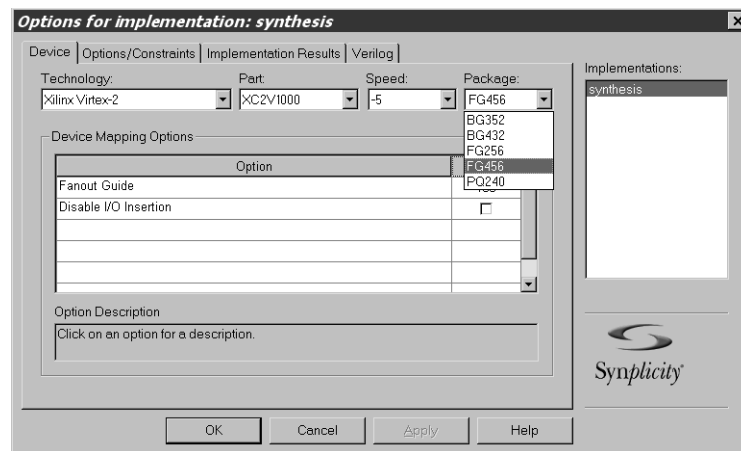

Figure 5-7: Options for Implementation: Device
- From the main project window, click Change Target to display the Options for Implementation dialog, Figure 5-7.